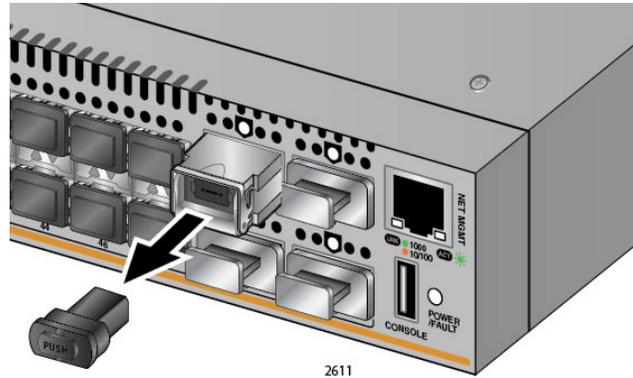

Figure 33. Removing QSFP+ Dust Cover
6. Remove the dust cover from the transceiver. See Figure 33 on page 63.